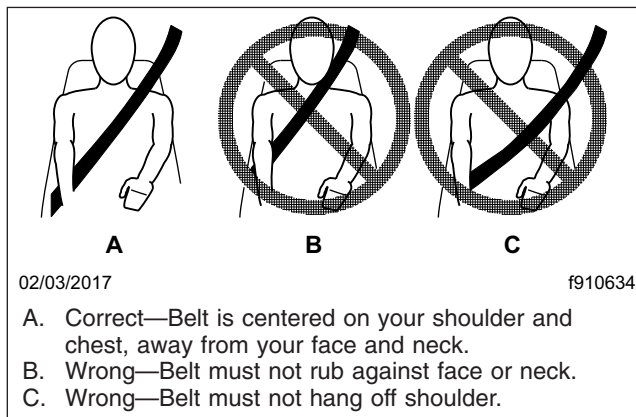

Fig. 9.9, Proper Shoulder Strap Fit
- Position the shoulder strap diagonally across your chest with the adjustable D-loop bracket (if equipped). The shoulder strap must be centered on your shoulder and chest, away from your face and neck. See Fig. 9.9. If desired, engage the Komfort Latch or Sliding Komfort Latch as follows.